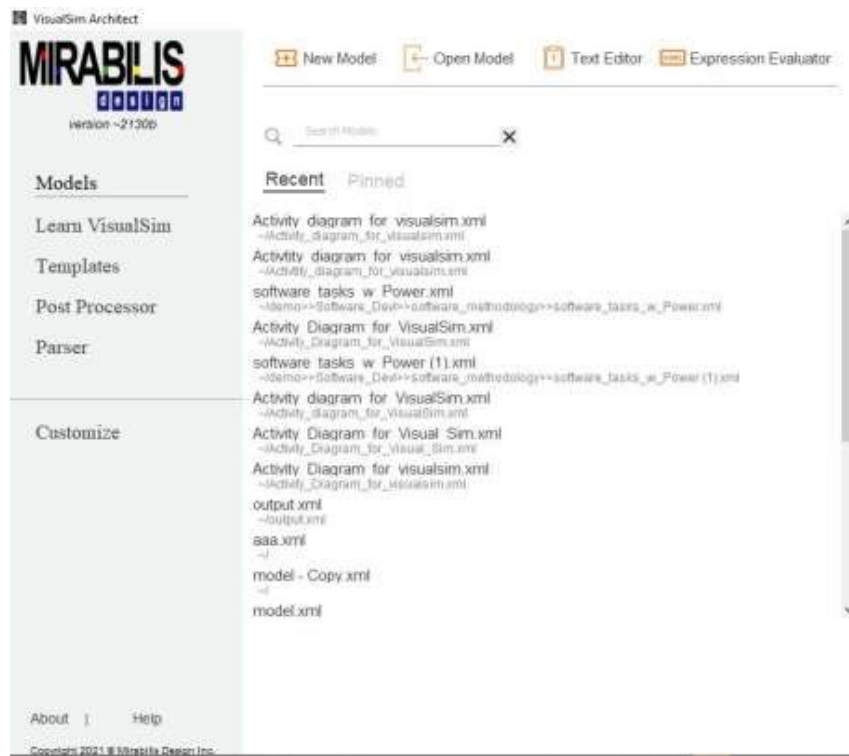

Fig 18: VisualSim
Step 3: Open the VisualSim. As shown in Fig 18.